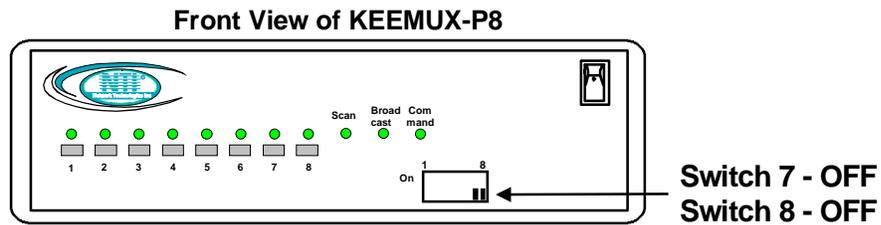

Figure 1- Keyboard dip-switch configuration
*FYI: Should switch 7 or 8 get changed to the “ON” position, it will be necessary to power-down the entire system (including CPUs), change the dip-switches back to the “OFF” position, and then power the system back up. If it is necessary to replace one PS/2 keyboard with another one, the keyboard can be hot-swapped without powering-down. Refer to Fig. 1 for instructions on proper keyboard dip-switch configuration.*